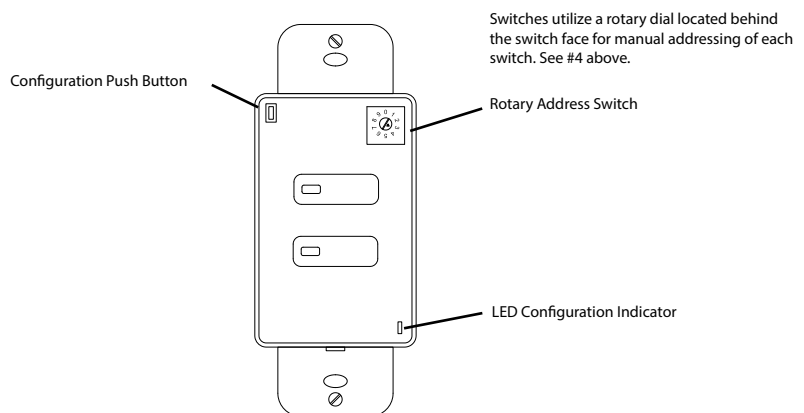

Figure 2: View Behind Switch Face
4. Set the switch address to number 1 on the rotary address switch. Additional switches to be daisy chained on the same *SmartPORT* must be set to unique addresses i.e. 2, 3, 4, etc. A maximum of 8 switches can be connected to one *SmartPORT*. (See Figure 2)